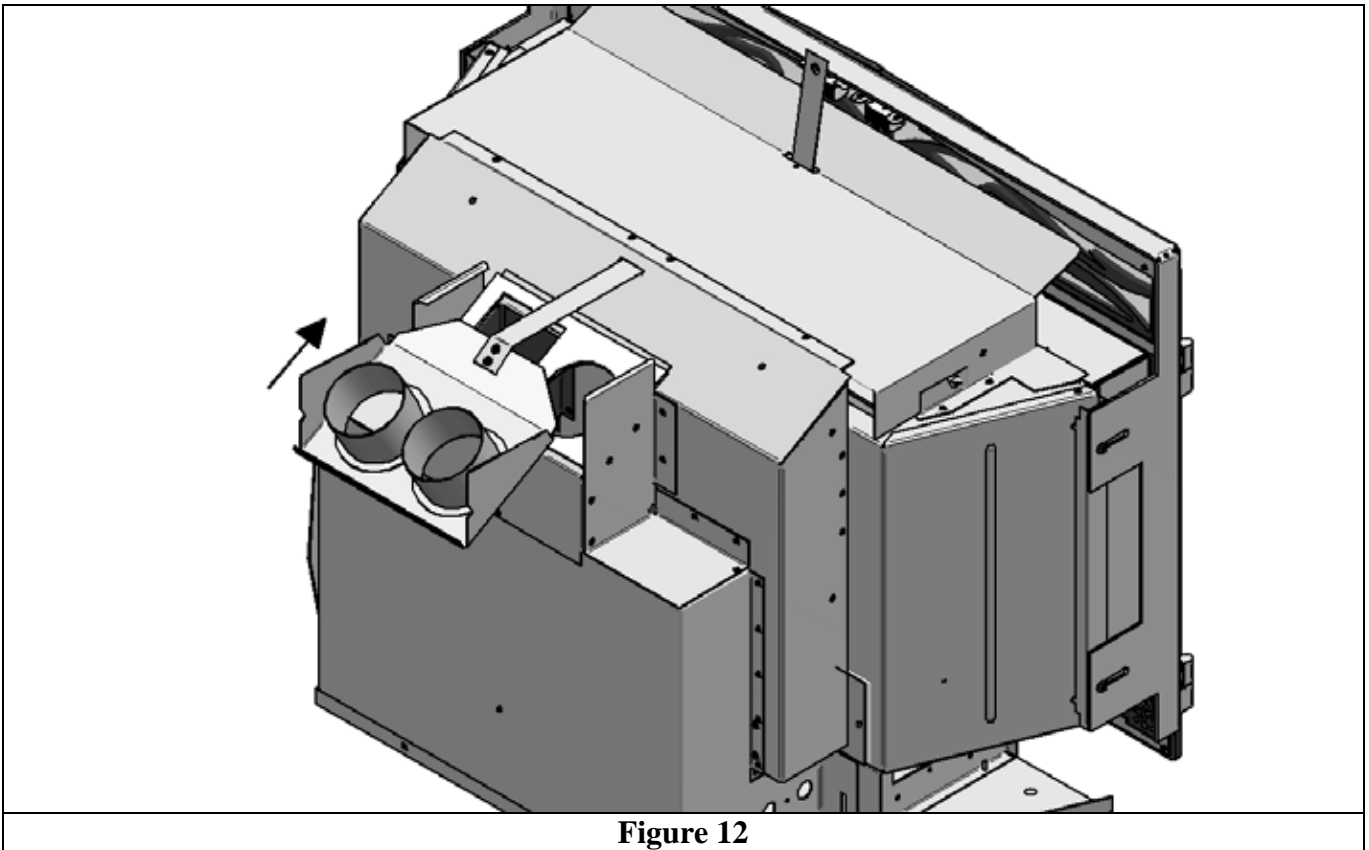

Figure 12
- a. Detach the vent connector plate by removing the screw securing the positioning strip to the top of the air jacket (Figure 11) and slide the vent connector plate off to the rear (Figure 12).